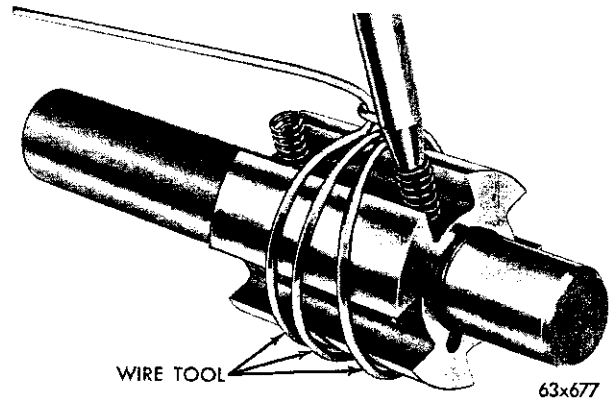

Fig. 63—Installing the Slipper Springs (Typical)
(11) Use an ordinary wood pencil with the point broken to install the new springs. Enter the blunt tapered end of the pencil in the spring and snap the springs into the pockets in the rotor by turning the pencil clockwise (Fig. 63). Install the springs and slippers in one rotor slot at a time. Remove the pencil from the spring with a counter-clockwise rotation. Either end of the spring may be inserted into the rotor pocket.